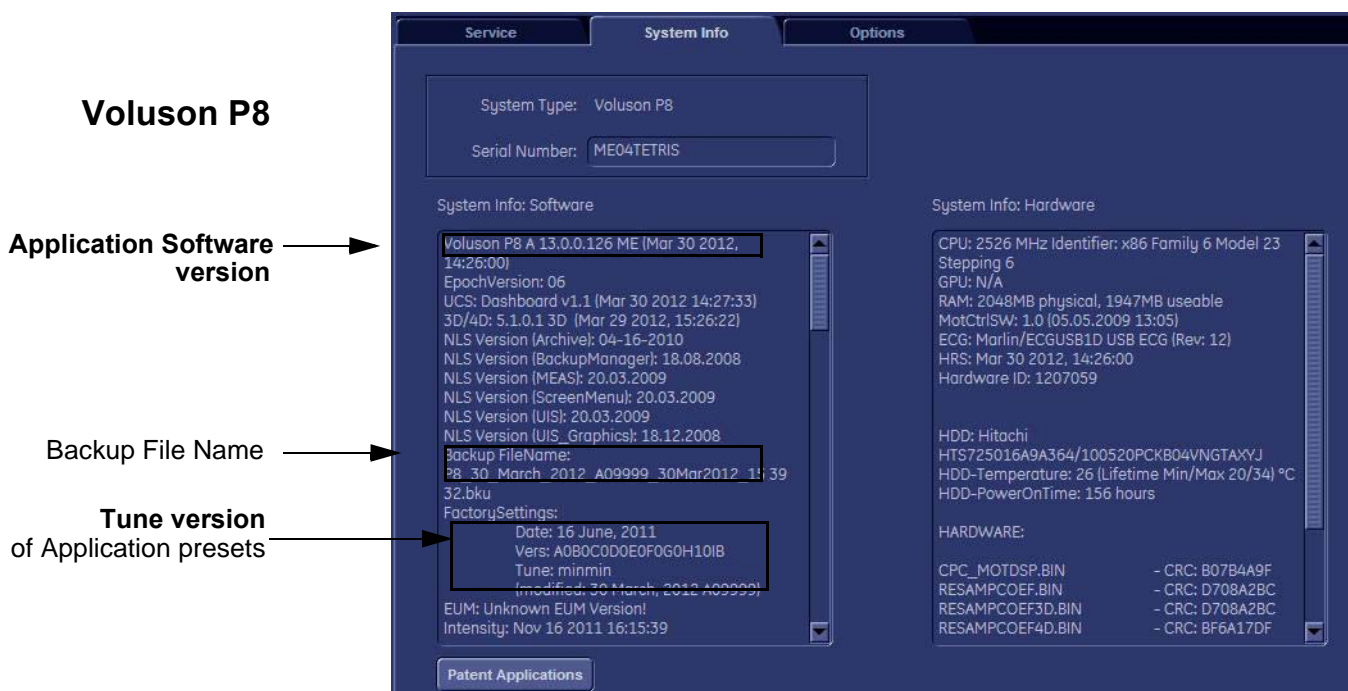

Figure 8-21 System Setup - Administration - SYSTEM INFO page
- 8.) Connect at least one probe and then click the button at the bottom of the **SYSTEM INFO** page to start Hardware configuration detection (see: Figure 8-21 above).